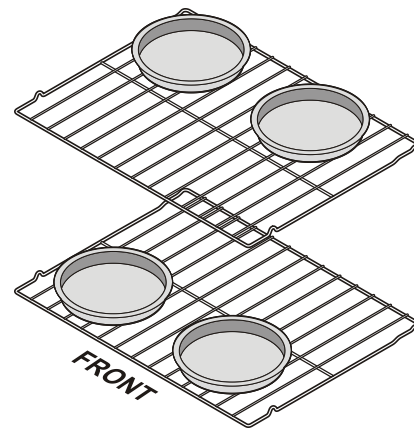

Fig. 2
- When baking using 2 oven racks, position cookware as shown in Figure 2. Allow at least 2 inches (5 cm) of space between cookware for proper air circulation.